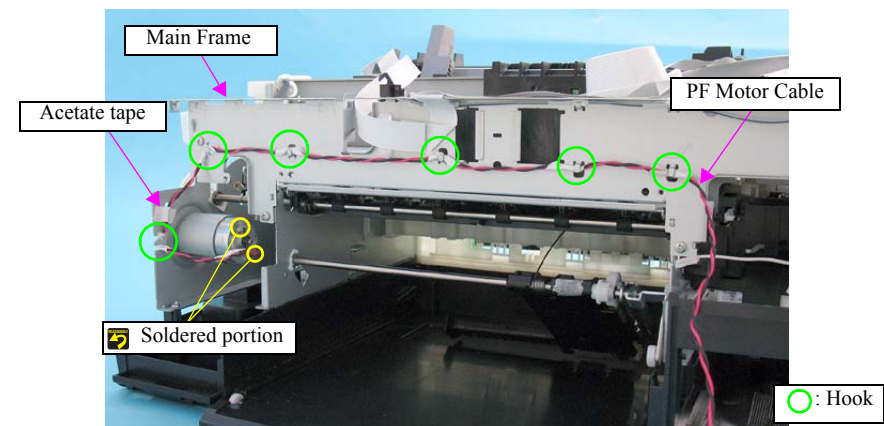

Figure 4-212. Removing the PF Motor (1)
- Route the PF Motor Cable as shown in Figure.4-212. To protect the cable, wrap the portions of the cable secured with the hooks using acetate tape two times around them.
- To avoid breaking the soldered portions of the PF Motor Cable shown in Figure.4-212, route the cable so that the soldered portions are not pulled.